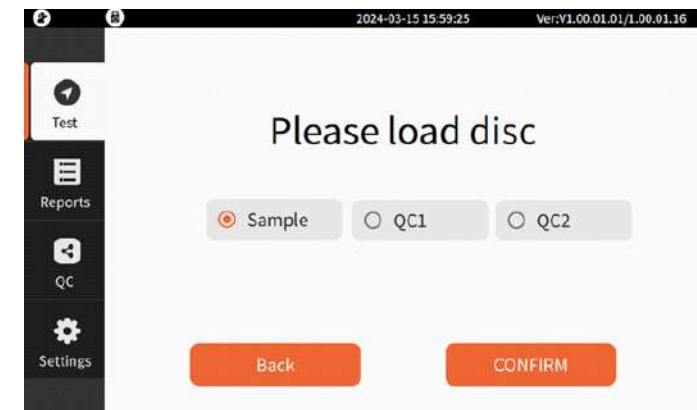

Figure 5-9
- 4) Select a test type, as shown in Figure 5-9.